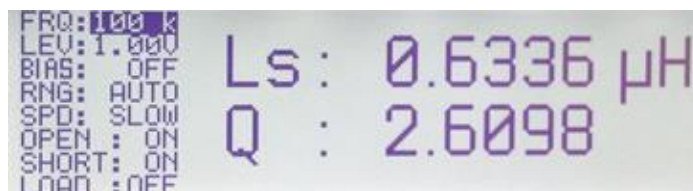
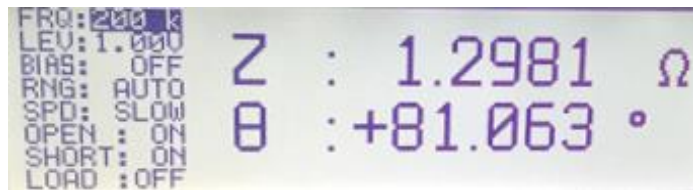

Fig. 2-4: Display of inductance and quality for a coil at 100 kHz.
Fig. 2-5: Display of impedance and phase angle for a coil.
- The correct measurement function is set automatically in Auto mode, which is enabled by default (see Fig. 2-8 and Section 2.1.2.1). In this case, L-Q is displayed, i.e. inductance L and quality Q (Fig. 2-4). Other parameters such as impedance and phase angle are displayed by pressing a key and selecting the appropriate measurement functions as described in the manual. In the case of an ideal coil, the phase angle is  $+90^\circ$ . Fig. 2-5 shows the measurement of an actual lossy coil with a phase angle of  $+81^\circ$ .